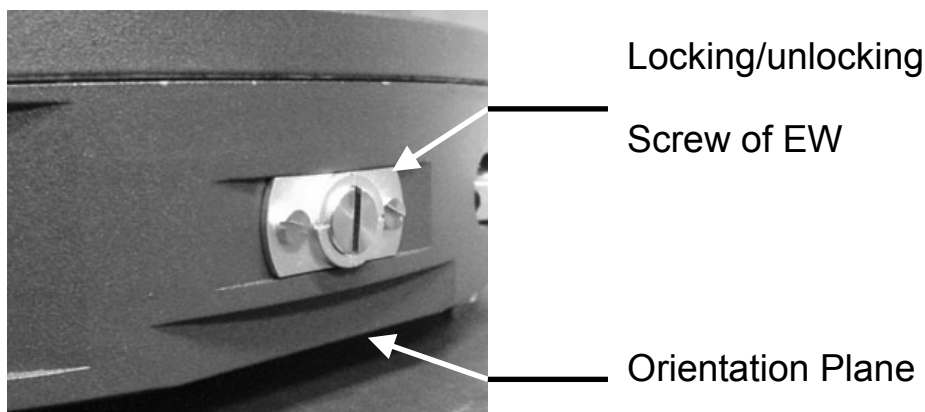

Figure 2 Location of Orientation Plane
**NOTE:** Find the Orientation Plane of the seismometer below the Locking/unlocking Screw of EW component, shown as Figure 2.